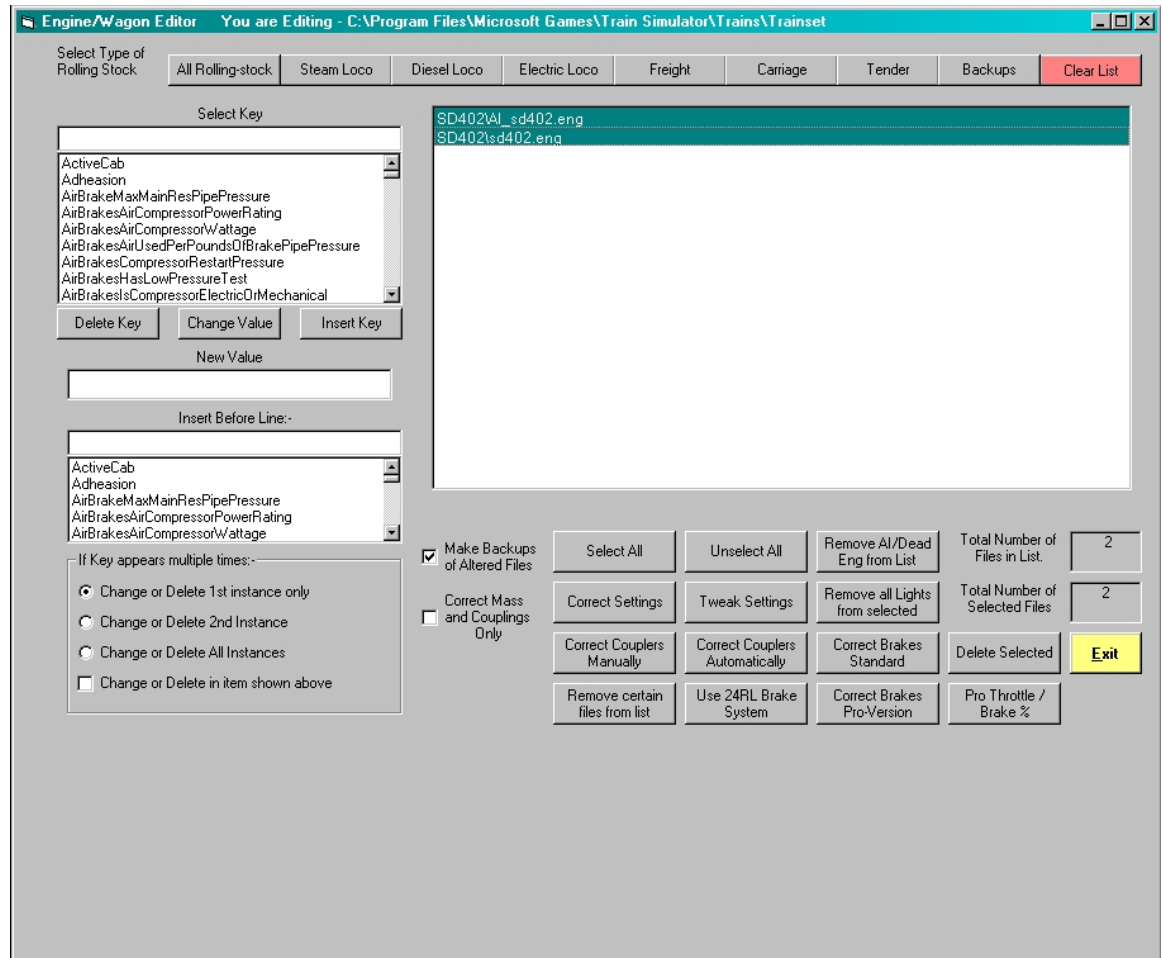

Figure 6
6. Now put your mouse arrow over the first item in the big box and left-click to highlight the file to modify. You can also left-click and hold the button down and drag your mouse down the screen to highlight all items you want to upgrade. You can also hi-light several files that are not successive on the list by holding the "Ctrl" button on your keyboard down and left-click all items you want to highlight or upgrade. Your window should look like Figure 6 after highlighting all eng. items in the main window.